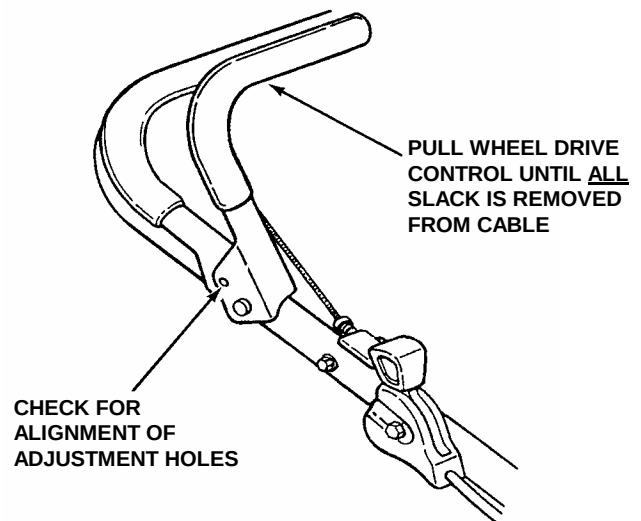

FIGURE 4.5
2. If holes are not aligned, follow procedure in Step 1 hold both controls in that position. See Figure 4.5.